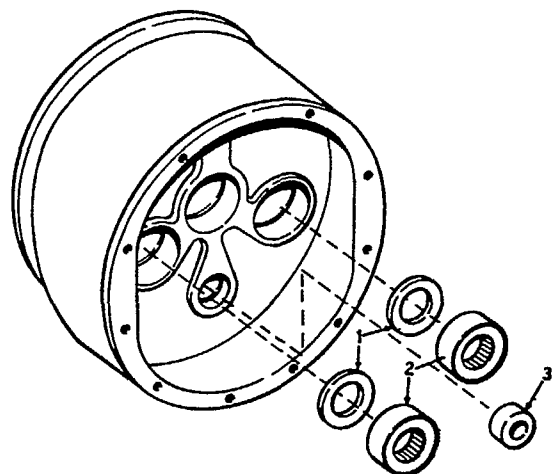

Figure 5-12. Hoist Gear Case
11. The bearings and oil seals (Figure 5-12, items 1 and 2) for the left and right hand drum pinion shaft assemblies and the bearing (3) for the load brake shaft are pressed into the gear case and should not be removed unless they are to be replaced. It is advisable to replace the oil seals.